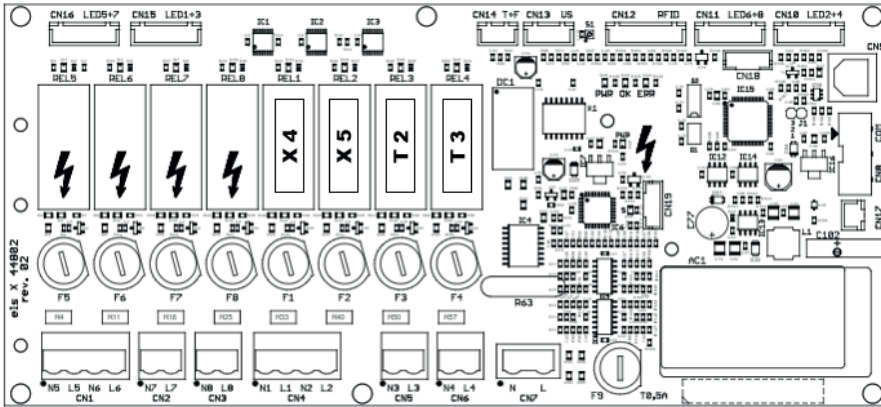

Figure 15: Position of the fuses
- ▶ Identify the fuses on the electric PCB (Fig. 15) using the designations **E1**(Switch cabinet heating optional), **X4** (Charging point top left as viewed from the front), **X5** (Charging point top right as viewed from the front), **T2** (Charging point bottom left as viewed from the front) and **T3** (Charging point bottom right as viewed from the front).